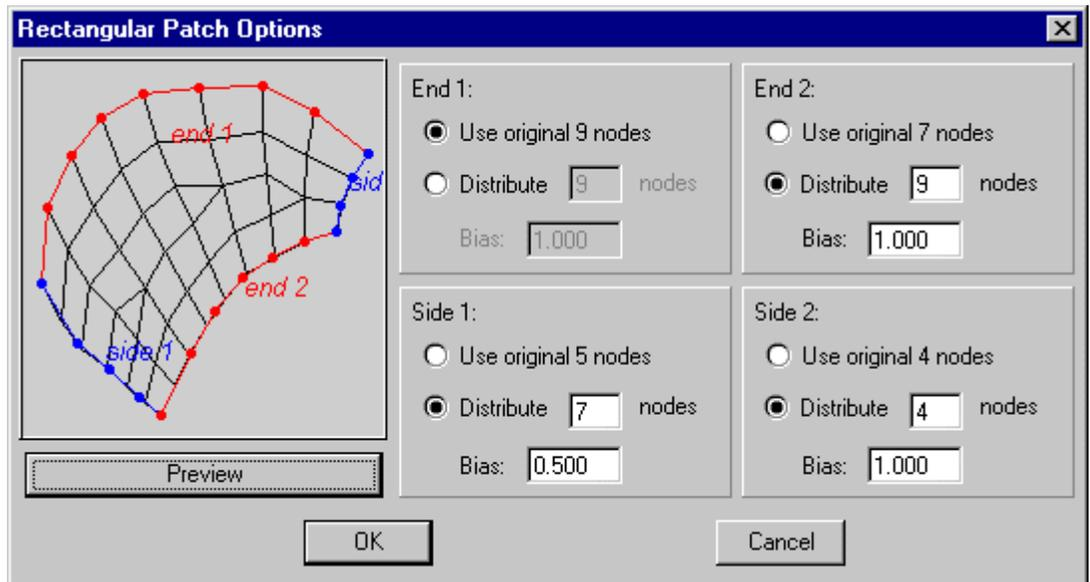

Figure 4.19 Rectangular Patch Options Dialog.
Elements can be made to fill a rectangular area by choosing the *Rectangular Patch* option from the *Elements* menu. To define a rectangular patch, four nodestrings must be selected. The nodestrings must connect at the ends. The *Rectangular Patch Options* dialog is shown in Figure 4.19.
- ? Although opposite sides in the rectangular patch are not required to have the same number of nodes, the best patches occur when this is close. In the example shown in Figure 4.19, the two ends have the same number of nodes and the two sides only differ by three nodes.